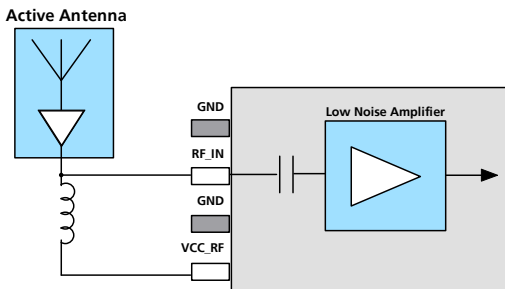

Figure 5: Recommended wiring for active antennas
- NEO-5 modules do not provide the antenna bias voltage for active antennas on the **RF\_IN** pin. It is therefore necessary to provide this voltage outside the module via an inductor as indicated in Figure 5. u-blox recommends using an inductor from Coilcraft (0402CS-36NX). Alternative parts can be used if the inductor's resonant frequency matches the GPS frequency of 1575.4MHz.